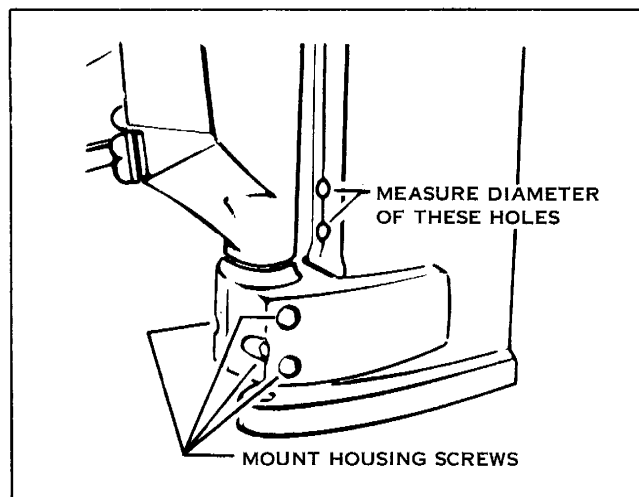

FIGURE 10
14. Measure diameter of two holes on forward edge of exhaust housing. See Figure 10. If holes measure 13/32" (13.3mm) diameter, proceed as follows:
- a. Remove four screws from lower mount housings. See Figure 10. Remove housings.